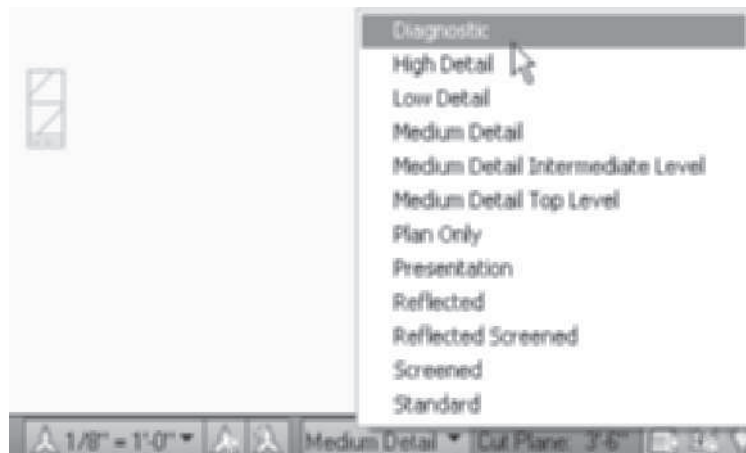

FIGURE 2.71 Diagnostic display configuration specified
20. To view the justification line of the walls, click the **Display Configuration** menu of the **Drawing Window** status bar, and select **Diagnostic** as shown in Figure 2.71.